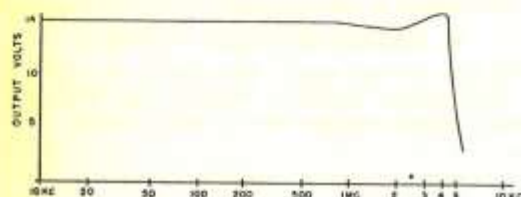
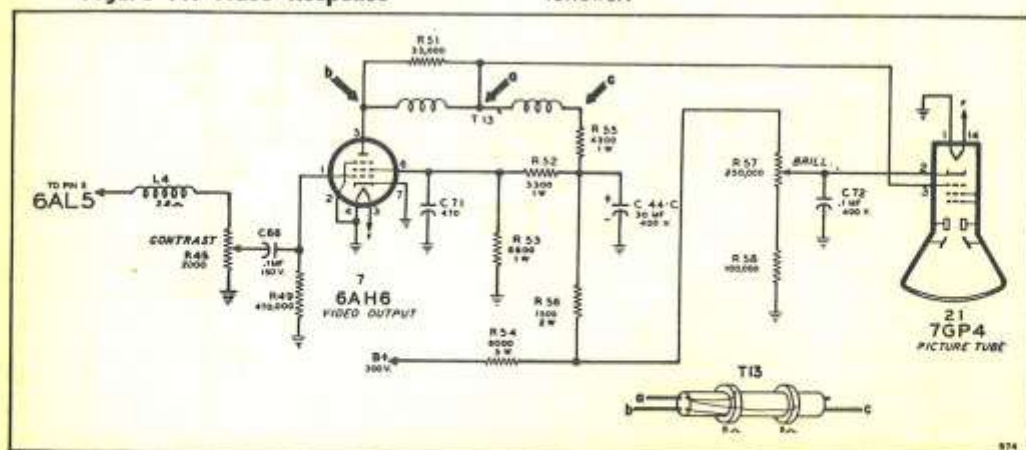

Figure 11. Video Response
Figure 12. Video Amplifier
Peaking coil L4 and capacitor C67 act together to form a compensating network with contrast control R45 providing a flat video frequency response up to $3\frac{1}{2}$ megacycles (see figure 11.) Capacitor C66 blocks the direct-current of the diode circuit from biasing the grid of the video output tube. Coupling capacitor C65 couples the secondary of i-f coil T12 to the second diode plate, and combined with the AVC load resistor R47, establishes a bias on this diode to allow only the sync pulses to appear in the cathode load resistor R50.
The video output stage (figure 12) uses a single type 6AH6 tube (7) which is biased by the rectified video signal appearing on the grid, and is dc-coupled to the picture tube grid. This arrangement, with the heavy bleeder on the screen, optimizes d-c restoration. Peaking coil T13 and resistors R51 and R55 maintain a frequency response flat to within 3 db out to $3\frac{1}{2}$ megacycles with a voltage gain of approximately 26 (see figure 11).